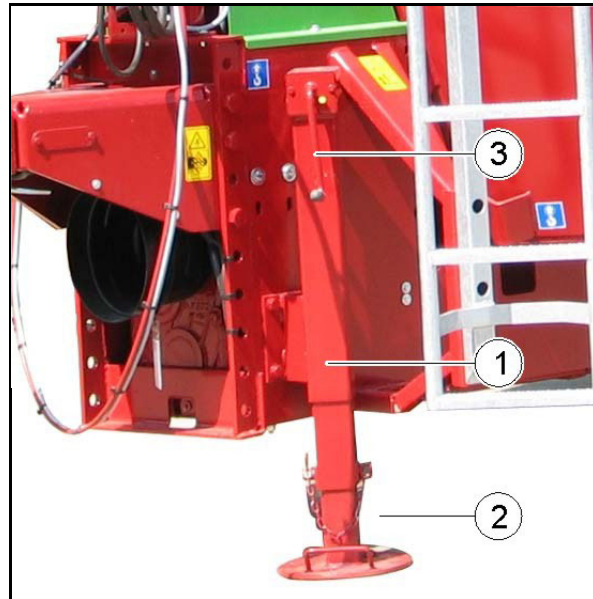

Fig. 53
The mechanical support stand (Fig. 53/1) with spindle adjustment and telescopic quick adjustment (2) is rotated via the crank handle (3).